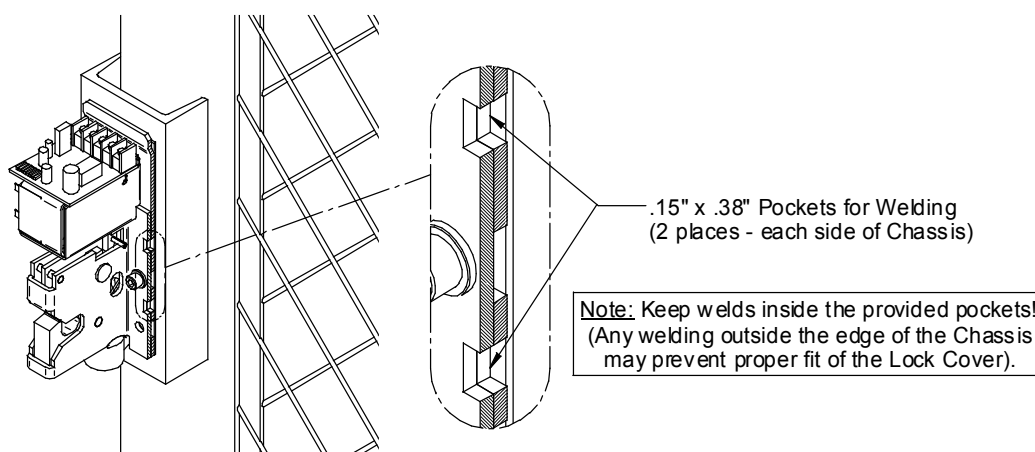

Figure 7 – Welding Pockets
The mounting configurations primarily addressed in this manual will be for swinging and sliding gate applications. Fastening hardware required for mounting the lock and strike in either mount configuration has been included with the unit. For added security (in conjunction with the fasteners, the lock and strike may be welded in place (see **Figure 7**, page 6), but care must be taken when welding to prevent damage to the electronic components of the lock. Because of the diversity in gate manufacturing/construction methods and installation configurations, mounting surfaces for the lock and strike assembly will be left to the installer. Optimum mounting platforms may be achieved by welding adequate size metal plates, channels or tubing to the fence frame and the gate. Formed angle and brackets along with appropriately sized fasteners may also be utilized to mechanically secure mounting platforms for the lock and strike. For maximum security when using the provided blind nut inserts, it is best to mount the lock to steel tubing or channel in order to conceal and protect the backside of the nut from exposure to damage or vandalism.
- a. Drill four (4) 25/64" [10mm] diameter holes through the mounting surface at marks for chassis mounting holes.
5. Install the lock mounting chassis (**Item #1**) into place using two (2) socket head cap screws (**Item #6**), two (2) split lock washers (**Item #5**) and two (2) flat washers (**Item #4**) **through the upper two holes of the chassis only.** **Note:** It is recommended that thread locking compound (**Item #8**) be applied to these two (2) cap screw threads at this point. Fully tighten the screws using a hex wrench.
Note: For maximum security, the lock chassis may be welded into place **in addition to** the fastener mounting. The lock chassis features four (4) "pockets" (two per side) that may be used for welding purposes (See **Figure 7**). **Welding must be confined to these pockets and flush with the edges of the chassis for proper fit of the lock cover.** (See *Section 5.1 Pre-Installation Survey* for additional welding precautions).